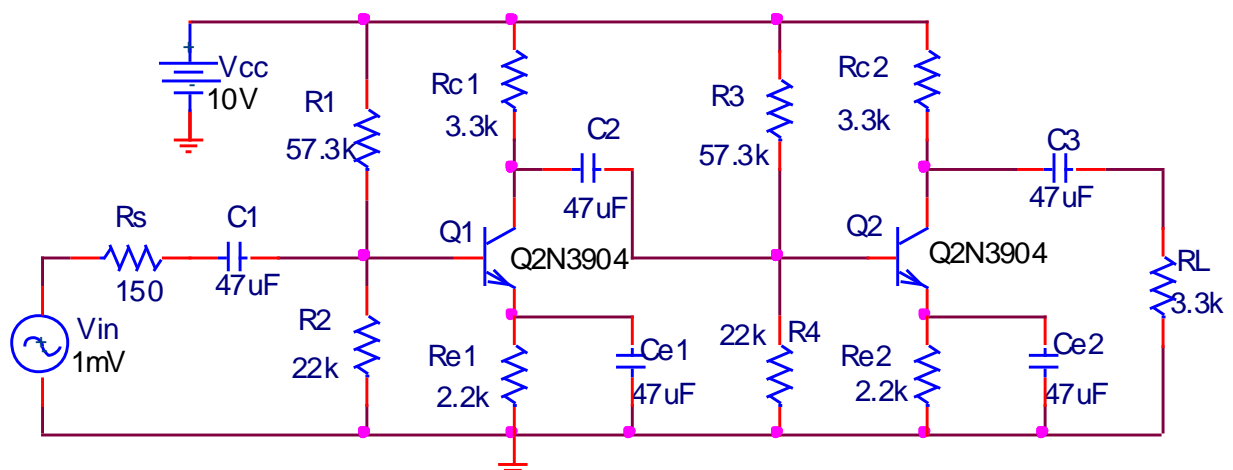

Fig.1. Circuit for Small signal analysis using BJT
- 1.1. Draw the circuit shown in Fig. 1 in PSpice schematics.